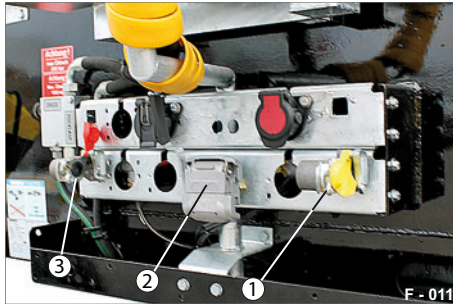

Fig. 13 Connections
- Couple the "brake" coupling head (Fig. 13/2).
- Couple the "supply line" coupling head (Fig. 13/1).
- Disconnect "Supply" coupling head (Fig. 13/2).
- Disconnect the "Brake" coupling head (Fig. 13/1).